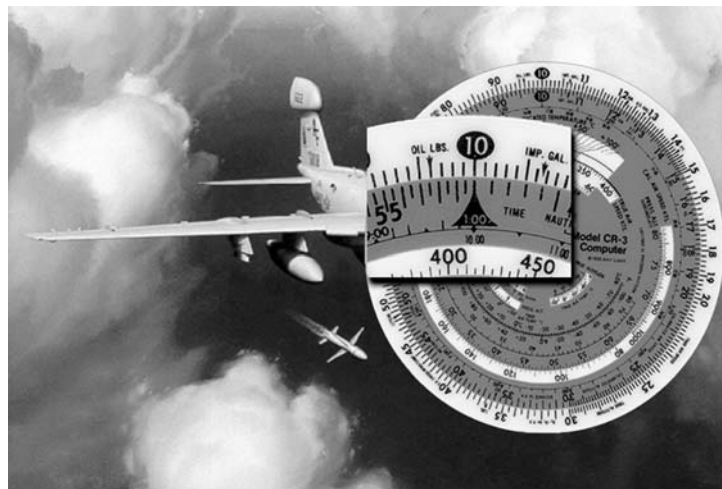

Figure 4.3-24 Fuel Consumption 1
2. Place the RATE INDEX (▲) located on the TIME (inner) scale under the 10 (1000 # / hr) on the FUEL (outer) scale. (Figure 4.3-24)